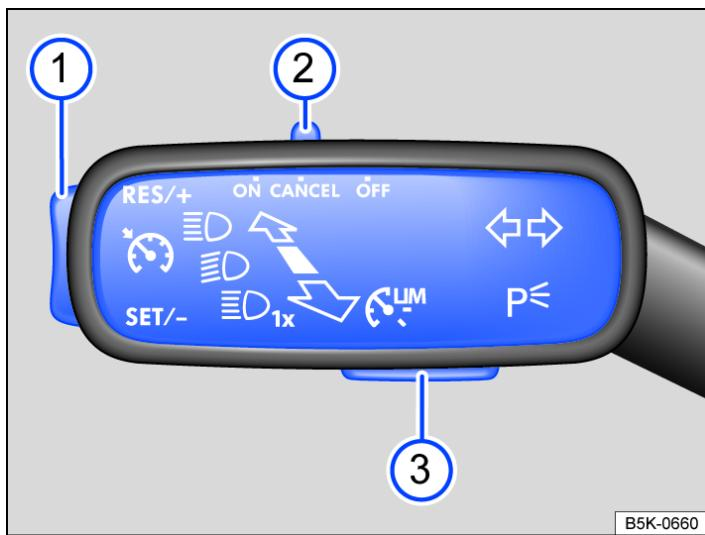

Fig. 1 On the left of the steering column: switch and buttons for operating the cruise control system.
- Move switch → Fig. 1 ② to position **ON**.
- Press button → Fig. 1 ① in the area **SET/-** while driving.